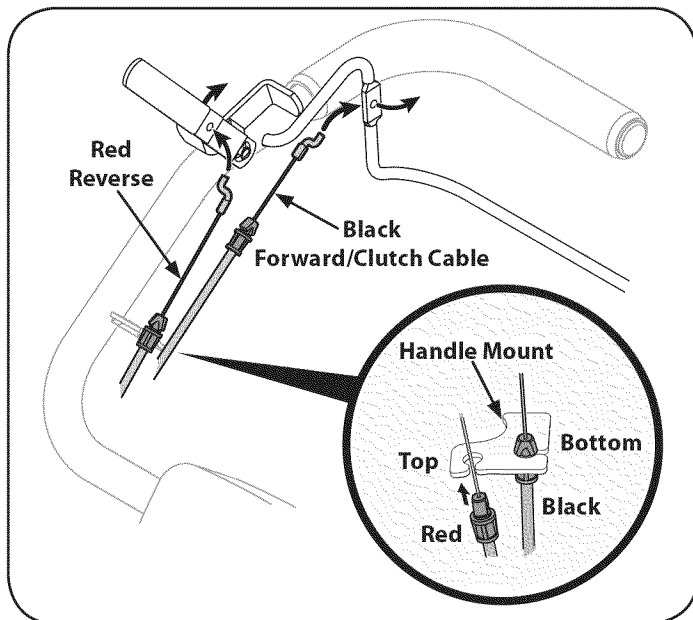

Figure 3
4. Snap the cable housing clips into the handle assembly cable mount. The red clip (reverse cable) fits into the top position on the handle assembly, while the black clip (forward/clutch cable) feeds into the lower position on the handle assembly. See Figure 3.